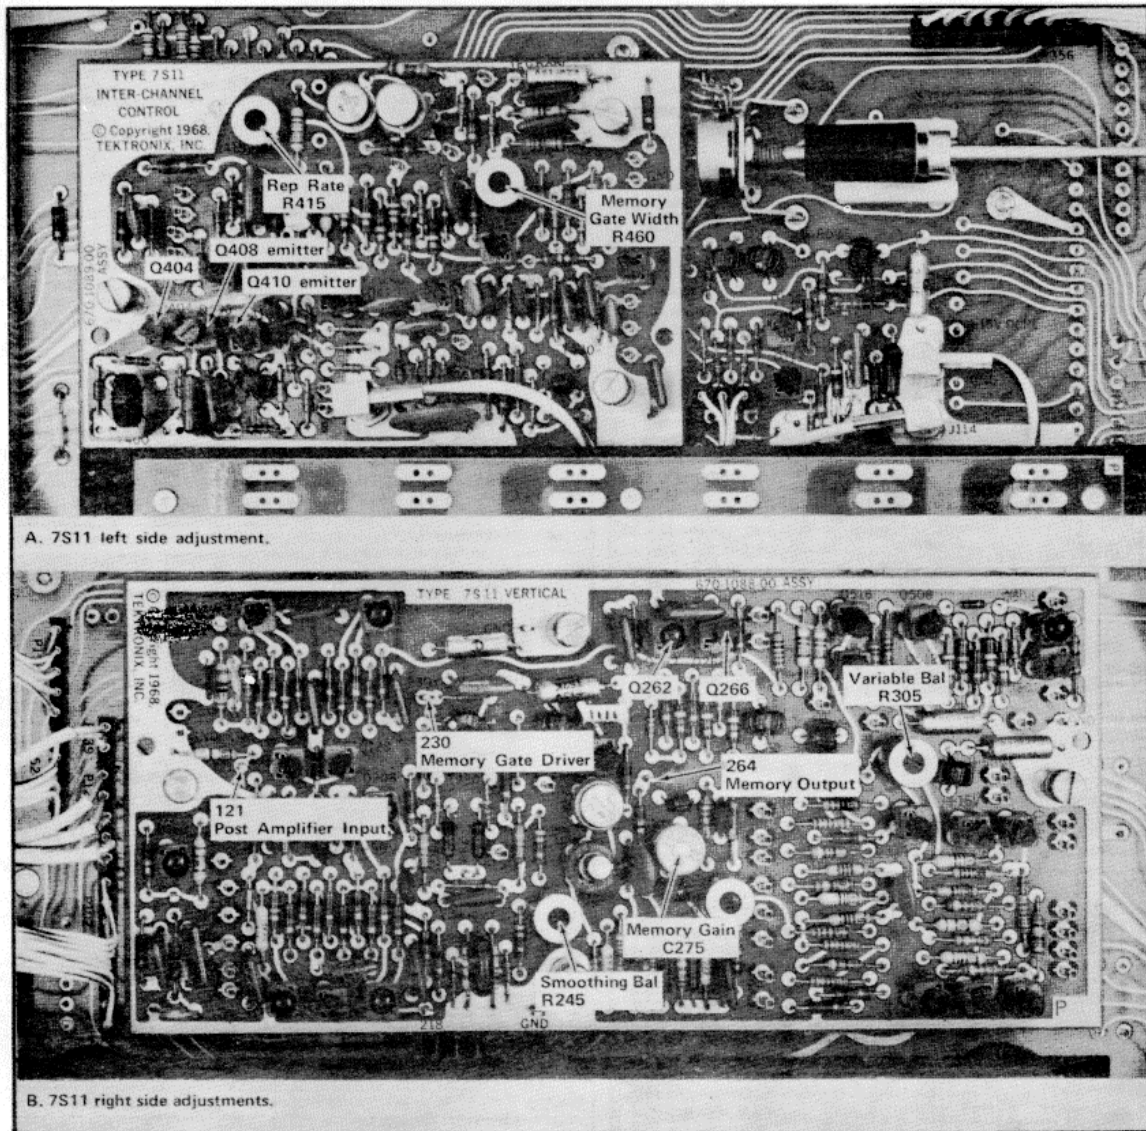

Fig. 6-7. Test points and adjustments, steps 4 through 13.
d. Adjust the Memory Gate Width control, R460, for maximum vertical separation between traces. See Fig. 6-7 for control location.
e. Connect the 7A13 10X probe to test point 230, the Memory Gate Driver, see Fig 6-7.
g. Adjust the Memory Gate Width control R460, Fig. 6-7, for a Memory Gate between 160 ns and 180 ns wide at the 50% amplitude level.
h. Connect the 7A13 10X probe to test point 121, the Post Amplifier Input, see Fig 6-7, and use a short ground lead (Tektronix Part No 175-0249-00) to minimize ringing. Set the 7A13 Volts/Div switch to 10 mV.
j. Remove 040, see Fig. 6-7, and obtain a stable, double-triggered display in such a manner that there are two, most defined, waveform traces, one positive and one negative, as shown in Fig. 6-8C. If not, change the real-time oscillator frequency by adjusting R415.
m. Adjust the Memory Gain control C275, see Fig. 6-7, for 5 divisions separation (2.5 divisions if not a Type S-1), similar to Fig. 6-8A.
a. Remove Q262 and Q266, then short test point 264 to ground with a patch cord. See Fig. 6-7.
c. Adjust Variable Balance control R305 for minimum trace shift as the VARIABLE control is rotated throughout its range. See Fig. 6-7 for location of control.
b. Connect the 7A13 10X probe to test point 230, see Fig. 6-7.
d. Adjust Rep Rate control R415 for a period between 19 μ s and 23 μ s. See Fig. 6-7 for location. See NOTE in Real Time Sampling on page 2-7 regarding this adjustment for Type S-5 Sampling Head use.